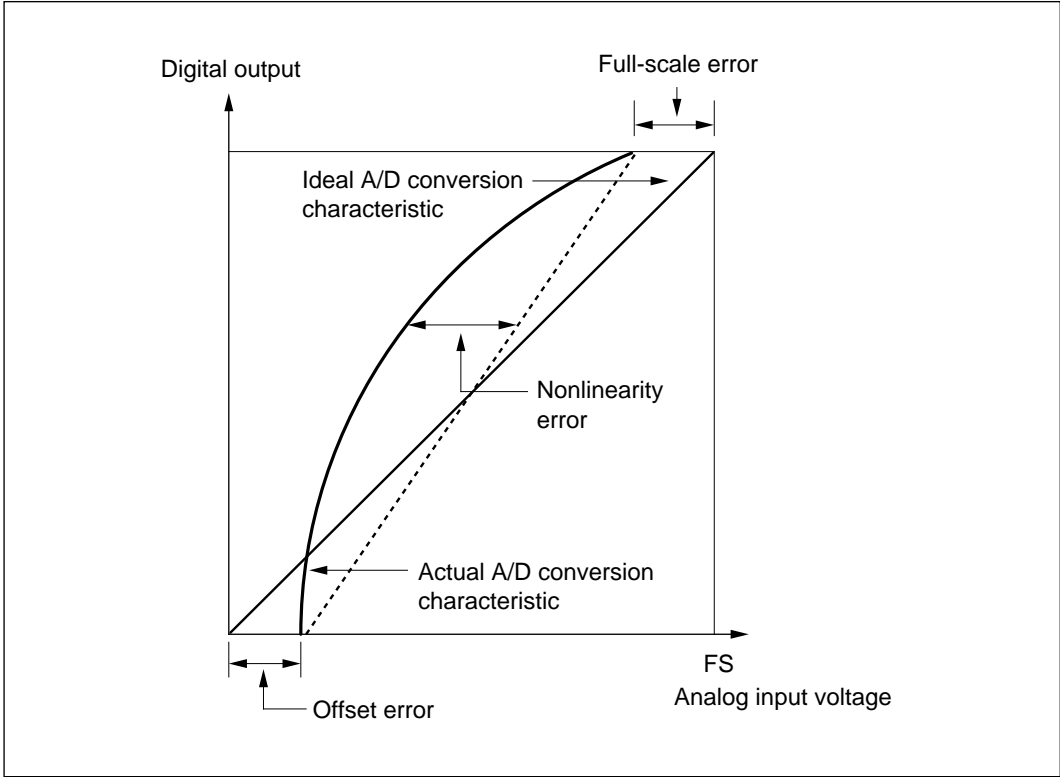

Figure 15-12 A/D Converter Accuracy Definitions (2)
(7) A/D Conversion Accuracy Definitions: A/D conversion accuracy in the H8/538 and H8/539 is defined as follows:
- Offset error: deviation from ideal A/D conversion characteristic of analog input voltage required to raise digital output from minimum voltage value 000000000 to 000000001, excluding quantization error (figure 15-12)
- Full-scale error: deviation from ideal A/D conversion characteristic of analog input voltage required to raise digital output from 111111110 to 111111111, excluding quantization error (figure 15-12)